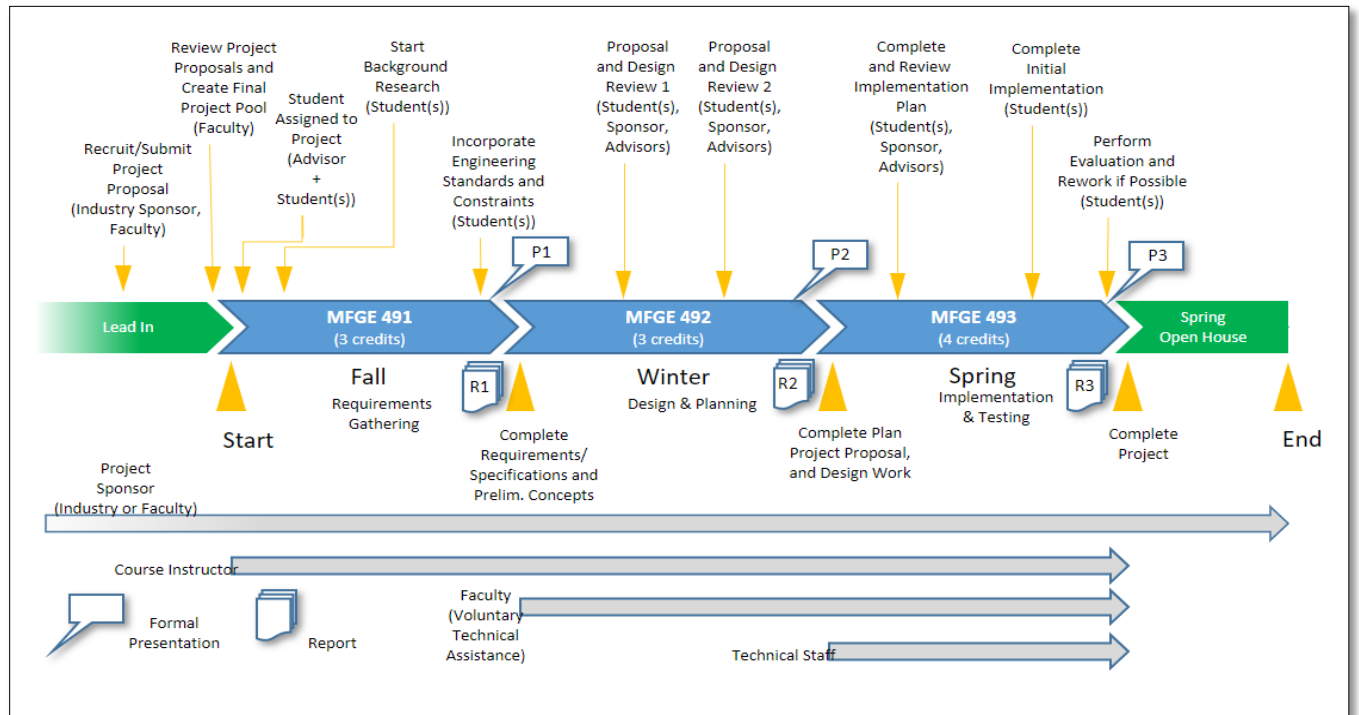

Figure 5.A.8 Capstone Senior Project
Figure 5.A.8 shows an overview of the capstone senior project that all majors are required to take. It is a three course, 10 credit sequence that covers the entire senior year. The administration of this project starts during a lead-in period prior to the beginning of the academic year.
- Capstone Project Advising: The bottom of Figure 5.A.8 shows the advising resources available for each student during their capstone experience. Every student project has a sponsor. Sponsors can be either from industry or a faculty member and are expected to be able to provide the information needed to define the constraints for the problem and possess the appropriate technical expertise to assist the student in design and implementation. They are also expected to pay for the project expenses and provide access to equipment that is needed that is not available on campus.